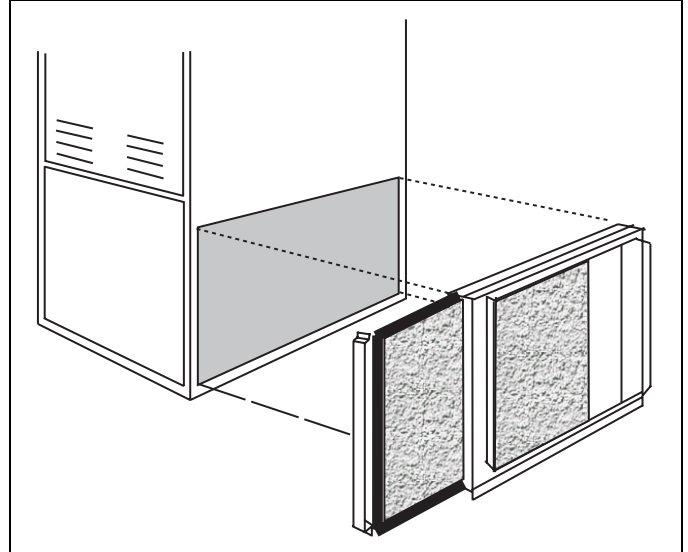

FIGURE 1: Side Return (Upflow)
1. Cut the side return area in the furnace cabinet as shown in Figure 1.